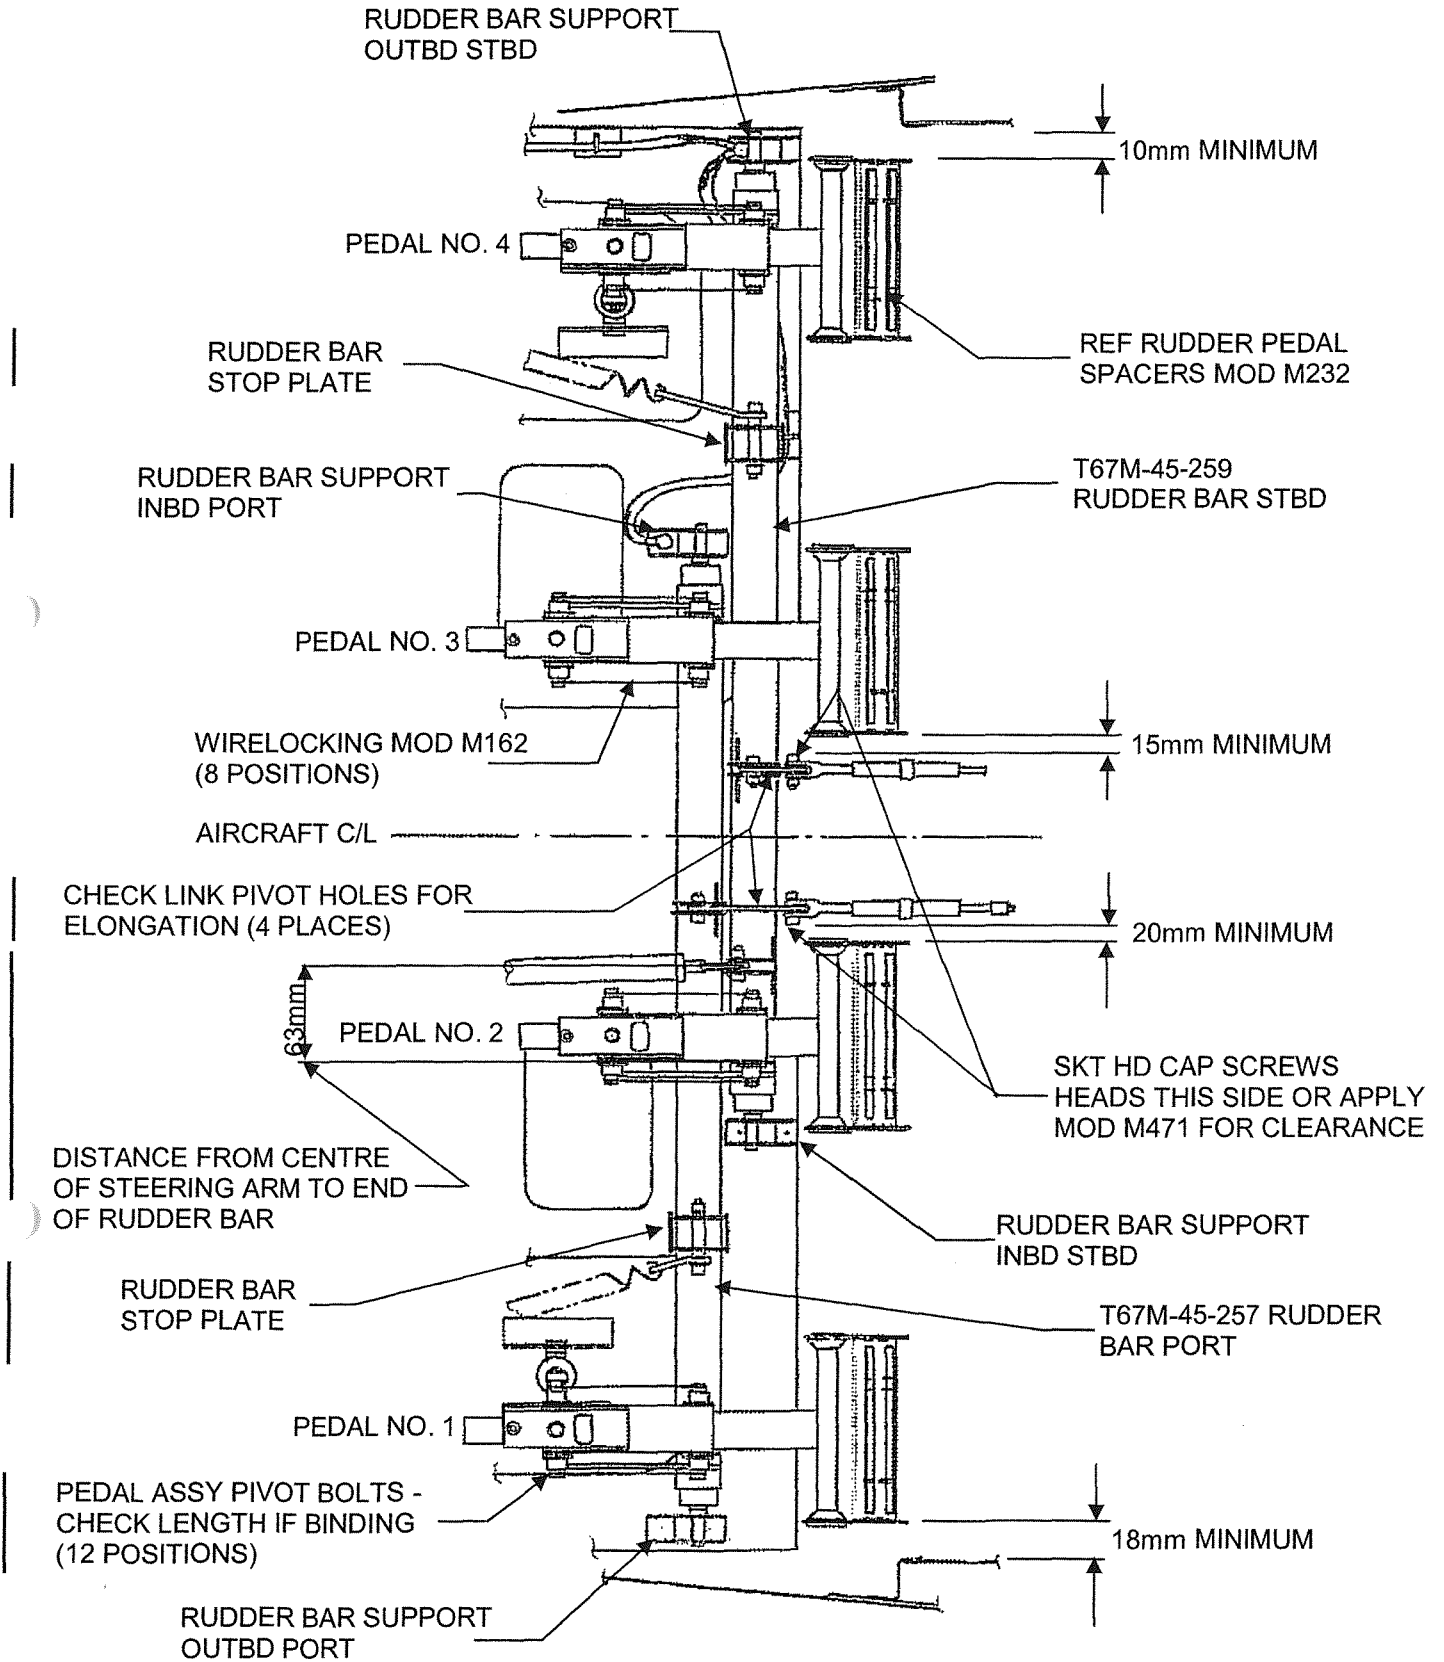
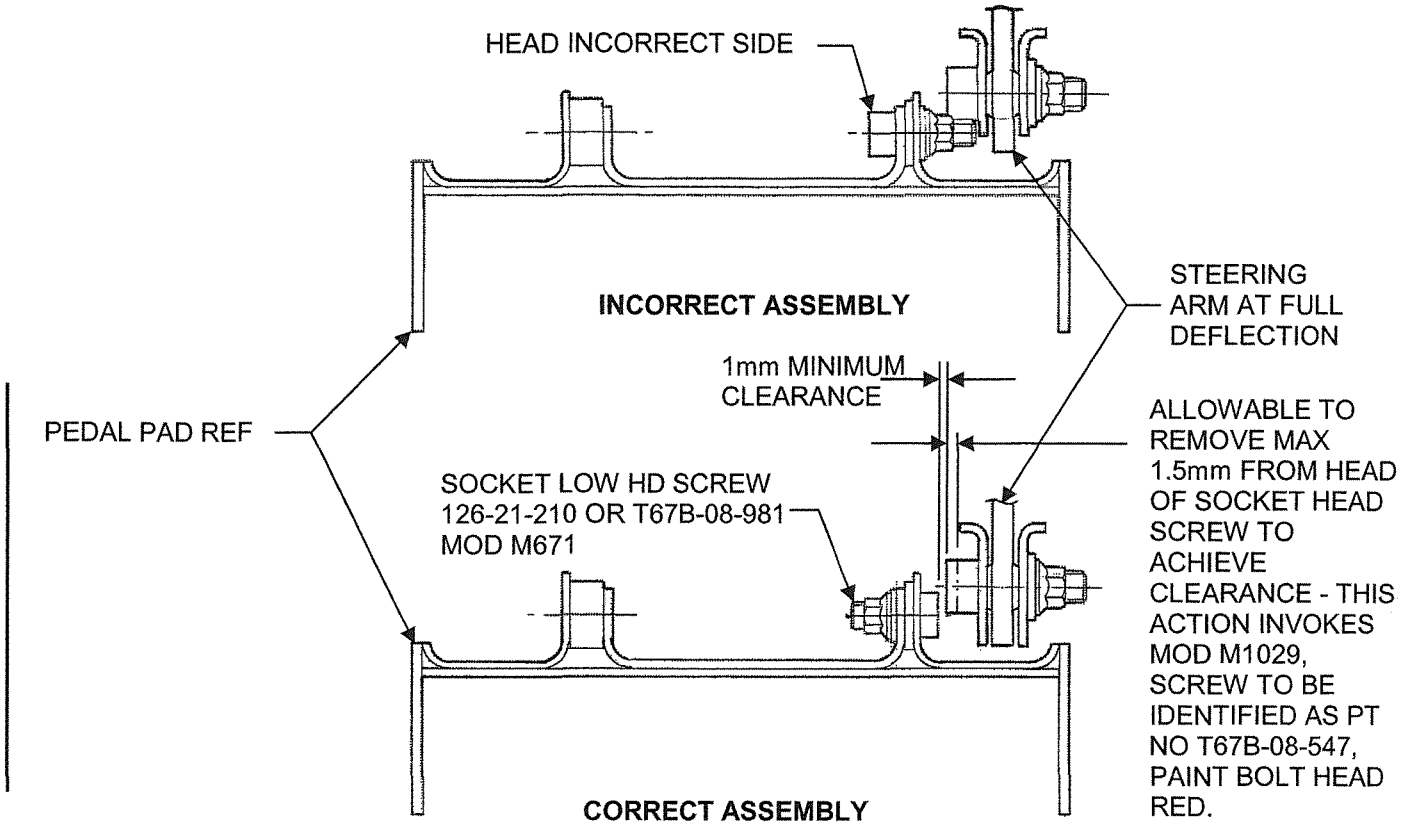

FIGURE 3
FIGURE 4
7. Check the remaining rudder bar support brackets, ref. Figure 3, are square to floor and are not "lozenged" and there is no deformation to their bases, reference Figure 1. If any bracket is found to be suspect replace with new item. Check floor under any damaged support bracket by removing panel. Ensure washers and brackets are correctly assembled refer paragraph 6 above. Inform SACL of any damaged bracket or additional floor damage. Assemble item as per paragraph 6 and ensure end float is as stated in paragraph 8. Ensure bonding leads are correctly fitted, carry out bonding check refer relevant aircraft's Maintenance Manual.
9. Ensure the rudder pedal carriages have full and free movement. If binding is suspected then check the 'U' bracket internal dimension. This should measure 35.0mm to 35.5mm, the bracket should also be parallel and square to the rudder bar axis, Figure 7 View on 'A' refers. Check that the pivot bush protrudes from its boss by 0.5mm. If the bracket internal dimension is greater or less, or if out of alignment then the bracket should be checked for cracking, refer Figure 7. If cracking is found then return rudder bar to SACL for rework. Finally check length of carriage pivot bolts, reference Figure 3, if binding is noted then replace bolts with bolt part number T67B-08-537 this introduces a bolt 15 mm long, measured from under head, and invokes Mod M808 "Introduction of Shortened Pivot Bolt to Rudder Pedal Slider Assembly Mounting". Also refer to SB130 Inspection of Rudder Pedals for Adjustment Restriction".
Note 2: Note rudder stop plates, positions indicated on Figure 3, are permitted with deformation assuming full rudder movement and clearances have been achieved and there is no cracking in the welds supporting the stop plates, if in doubt return rudder bar to SACL for rework.
13. Upon completion of rudder movement set-up ref. Paragraph 11 above. Ensure minimum clearances of trim panel to pedal side plates and rudder cable to pedal side plates are met Figure 3 refers. If necessary to obtain the required clearances, Mod M232 "Introduction of Rudder Pedal Packing for Increased Clearance of Surrounding Components" may be required to be invoked. Refer paragraph 7 for packing washers on rudder bar.
15. Ensure head orientation of rudder cable link bolt head is outboard, Figure 3 refers, this is a Low Pan Head bolt T67M-45-570 on Post Mod M471 "Introduction of Pan Headed Bolt on Rudder Cable Turnbuckles", aircraft.
16. Ensure Pedal no 2 Pedal pad pivot bolt head height is less than 5mm and orientated as shown in Figure 4. A minimum of 1mm clearance is required, if not fit part no 126-21-210 or T67B-08-981, this invokes Mod M671 "Introduction of Low Head Rudder Pedal Pad Pivot Bolts – Pedal No. 2". If clearance is not still achieved check distance of steering arm from bar end, Figure 3 specifies. If the distance is incorrect, then return rudder bar to SACL for re-worked/new item. Alternatively if clearance of 1mm is still not achievable remove up to a maximum of 1.5mm from the steering arm screw this invokes Modification action M1029, Figure 4 refers, and paint modified screw head red.
20. Ensure rudder pedal carriage socket head caps screws are wire locked and bonded in with adhesive 126-51-024, use minimum amount, Mod M162 "Wire Locking of Rudder Pedals – Upper Pivots", refers. See Figure 3.